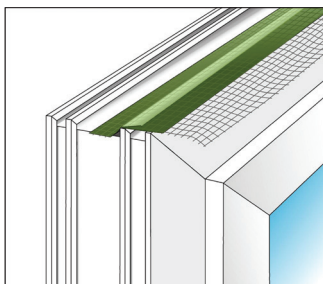

Fig 1
- Bond membrane with the self-adhesive strip to the outer edge of the window frame ensuring that the expansion pleat fold line is in line with the edge/inner face junction of the frame as fig 1 (note, drawing shows an inward opening window). Start at the centre of bottom frame section.